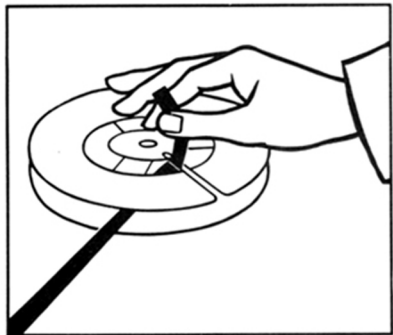

Fig. 6
- Keep the tape taut, draw the beginning through the slit in the upper side of the right-hand reel and against the reel core (Fig. 6).